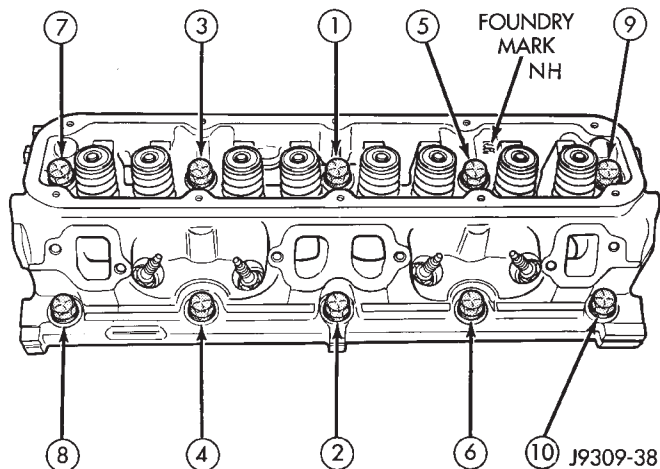

Fig. 19 Cylinder Head Bolt Tightening Sequence
- (1) Clean all surfaces of cylinder block and cylinder heads.
- (2) Clean cylinder block front and rear gasket surfaces using a suitable solvent.
- (3) Position the new cylinder head gaskets onto the cylinder block.
- (4) Position the cylinder heads onto head gaskets and cylinder block.
- (5) Starting at top center, tighten all cylinder head bolts, in sequence, to 68 N·m (50 ft. lbs.) torque (Fig. 19). Repeat procedure, tighten all cylinder head bolts to 143 N·m (105 ft. lbs.) torque. Repeat procedure to confirm that all bolts are at 143 N·m (105 ft. lbs.) torque.